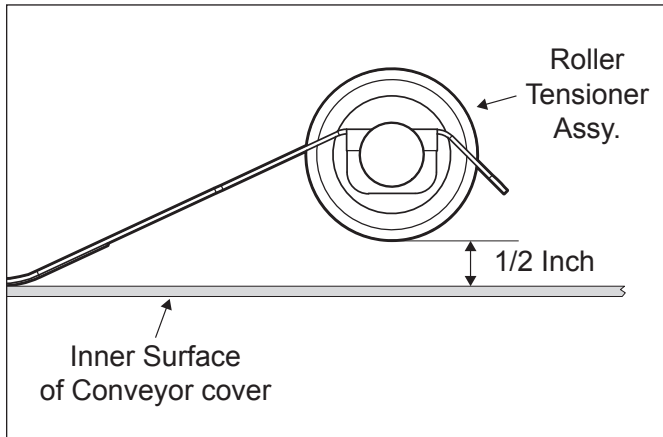

Figure 14. Measuring Roller Tensioner
4. Measure the Roller Tensioner on both inner Conveyor Covers (Figure 14).